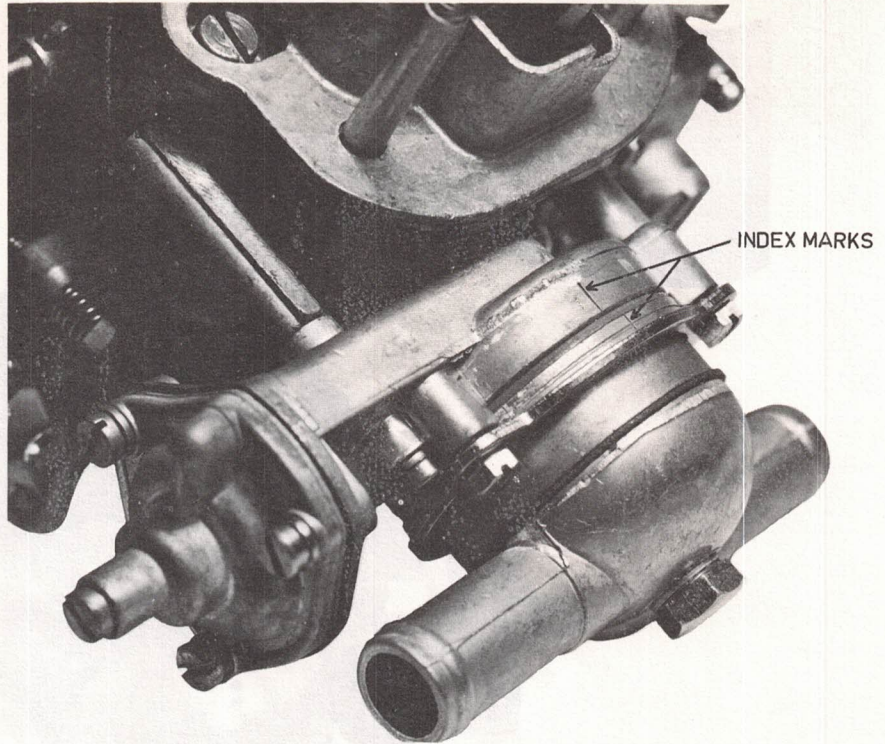

Fig. 57. Index Mark Setting
10. Assemble the choke housing and thermostatic spring assembly to the body, line up the index marks (Fig. 57) on the housing and body and install the three retaining ring to body screws.